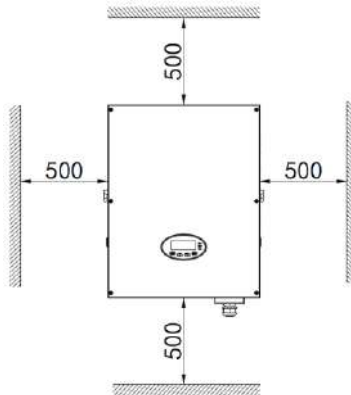

Fig 4.4 Installation spacing
- (2) The installation site must be well ventilated and away from raindrops or direct sunlight.
- (3) There must be enough pre-reserved space around the installation site for convenient installation and disassembly of the inverter and air convection, as shown in Fig 4.4.